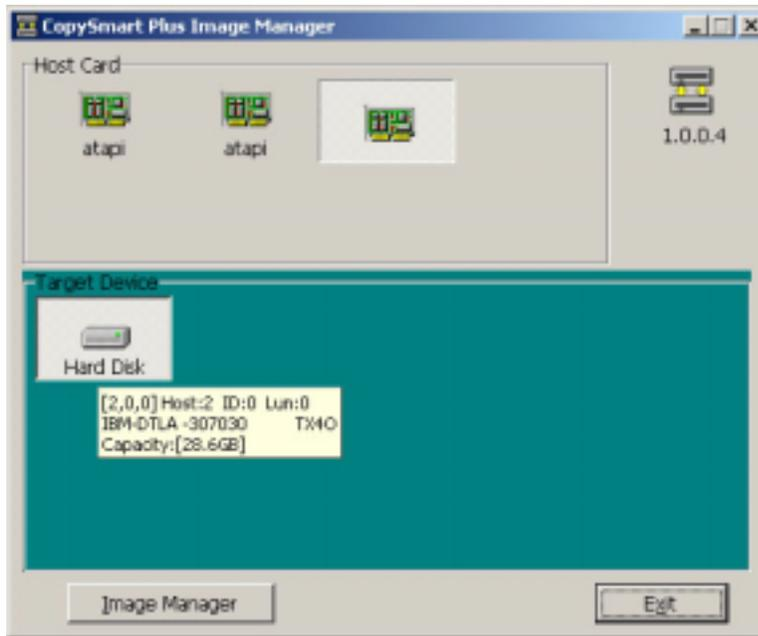
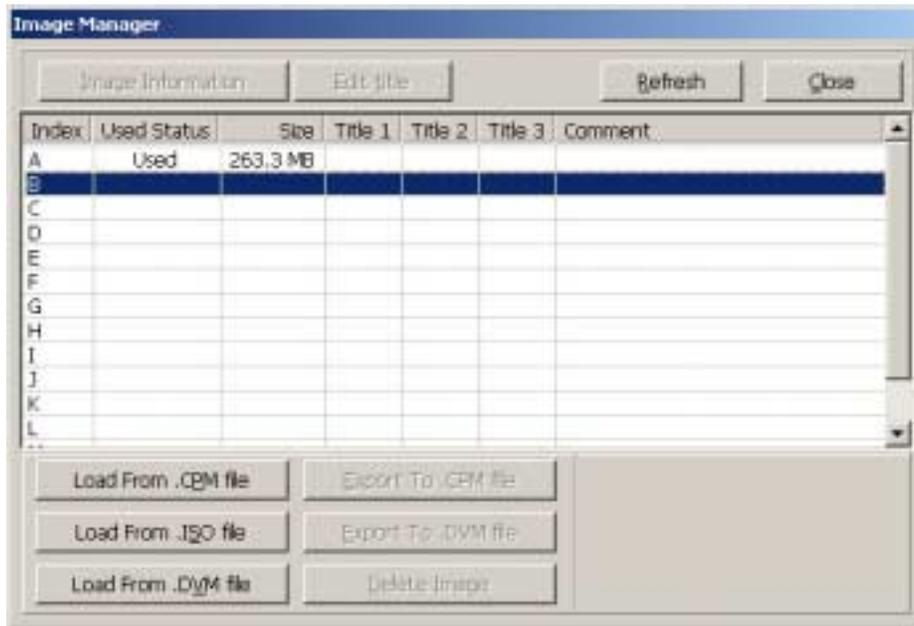

Figure 1
Figure 2
- (2) On Figure 1 move the cursor to the hard drive to see its capacity and so on. Now click [Image Manager] to enter Figure 2.
- (3) On Figure 2 choose a partition of the hard drive like B where you want to put the image file transmitted from the system's hard drive. And also choose the form of the file such as .CPM, .ISO or .DVM.
- (4) Now suppose you want to choose an image file of 1.ISO and click [Open].